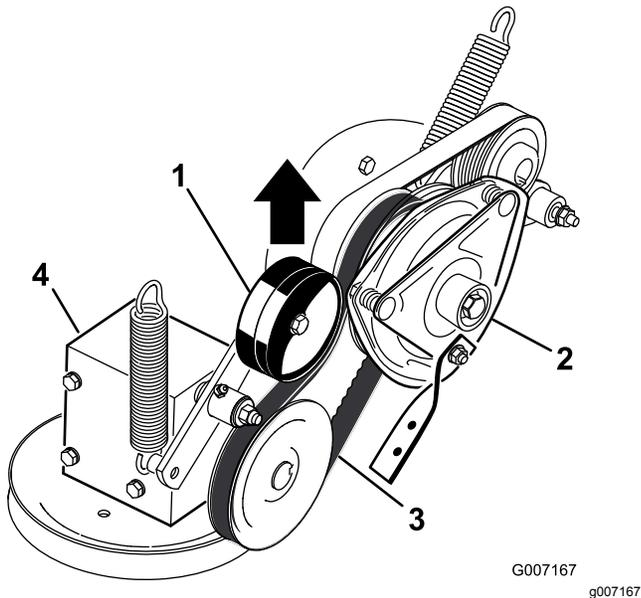

Figure 77
5. Pull up on the spring-loaded idler pulley for the PTO-drive belt and remove the belt from the clutch pulley (Figure 77).
17. Pull up on the spring-loaded idler for the PTO-drive belt and install it onto the clutch pulley (Figure 77).